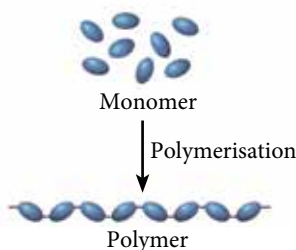

Figure 4.1 The production of a polymer from monomers
- The monomer combination reaction to produce a polymer is called **polymerisation reaction** as shown in Figure 4.1.